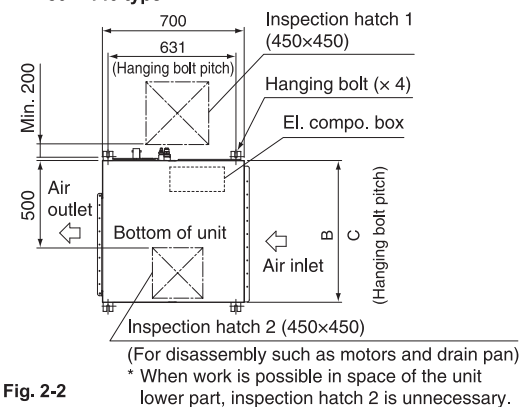

Fig. 2-2
1. Inspection hatch 1, 2 (450 × 450) for the el. compo. box and a minimum space of 300 mm for the lower part of the product. (Refer to Fig. 2-2)